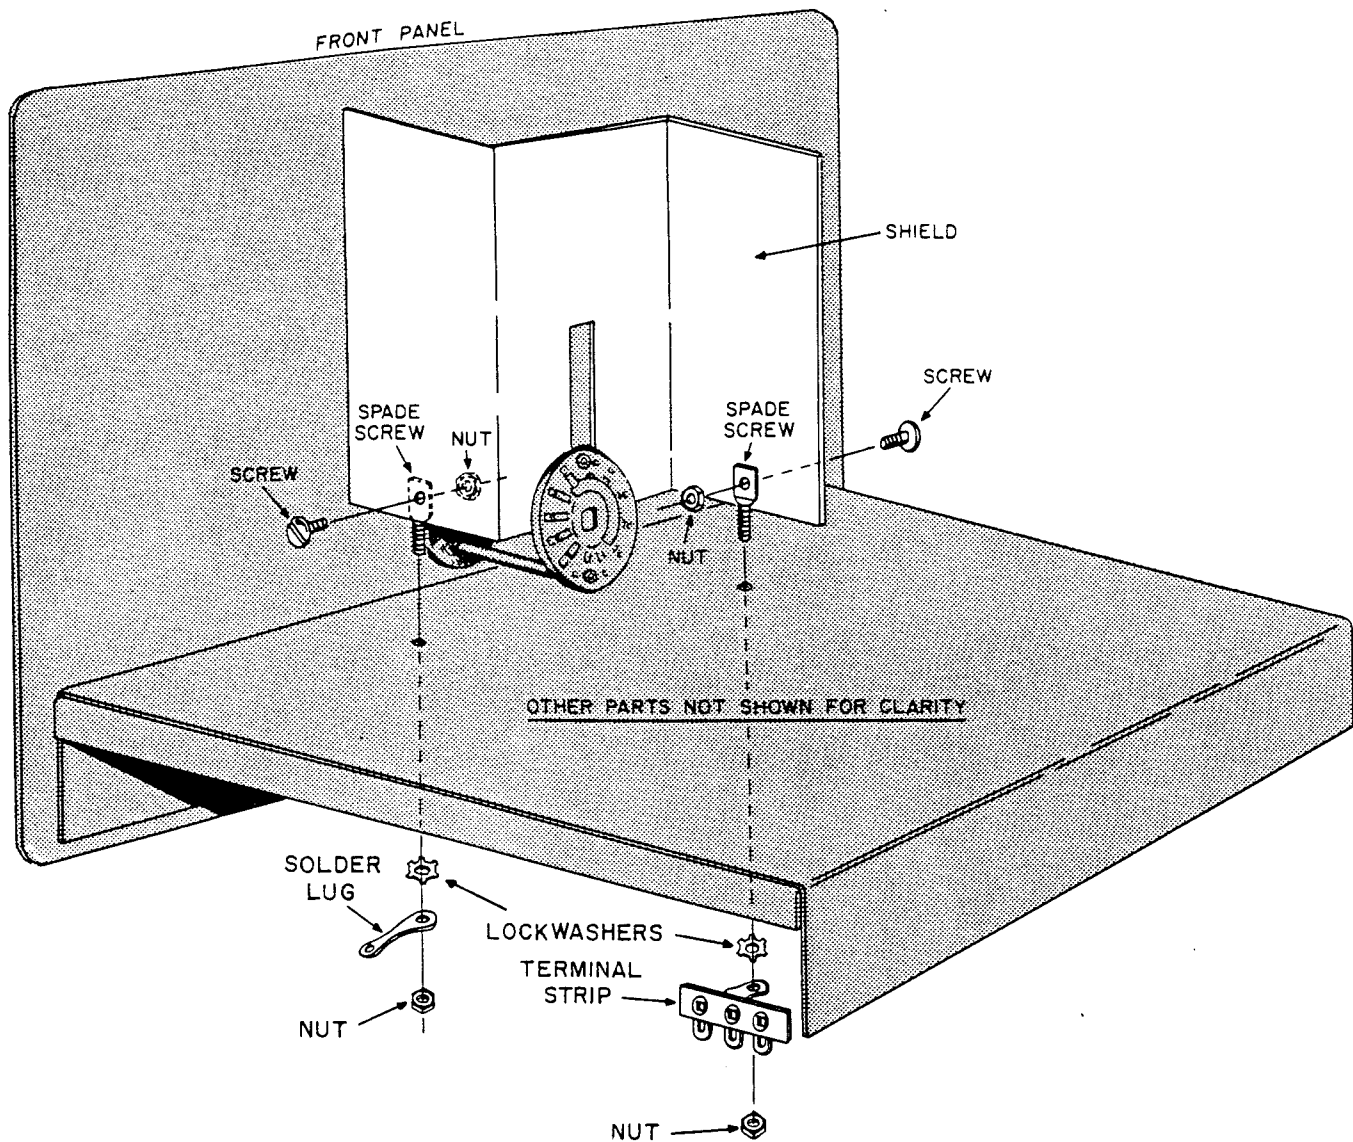

FIGURE 12. HOW TO INSTALL THE SHIELD
- As shown in Figure 12, install the shield partition. Note that a solder lug and terminal strip TS-4 are mounted with the shield fastening nuts. The spade screws must be attached to the sides of the shield as illustrated in Figure 12.